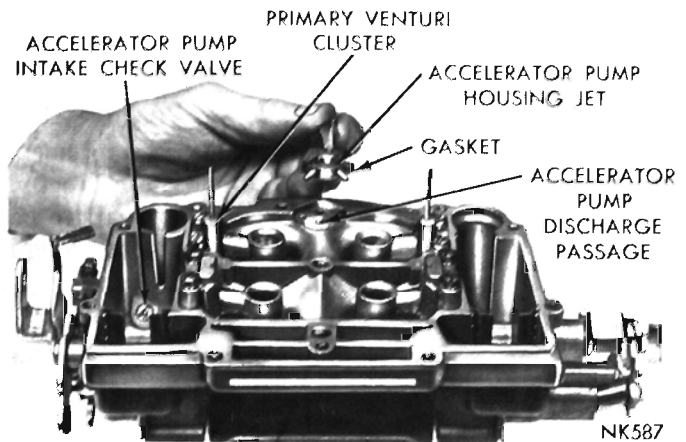

Fig. 3—Removing or Installing Accelerator Pump Jet Housing
(1) Remove screws that attach accelerator pump jet housing to main body. Lift out jet housing and gasket as shown in (Fig. 3). Discard gasket. Now, invert main body and drop out discharge check needle from discharge passage.